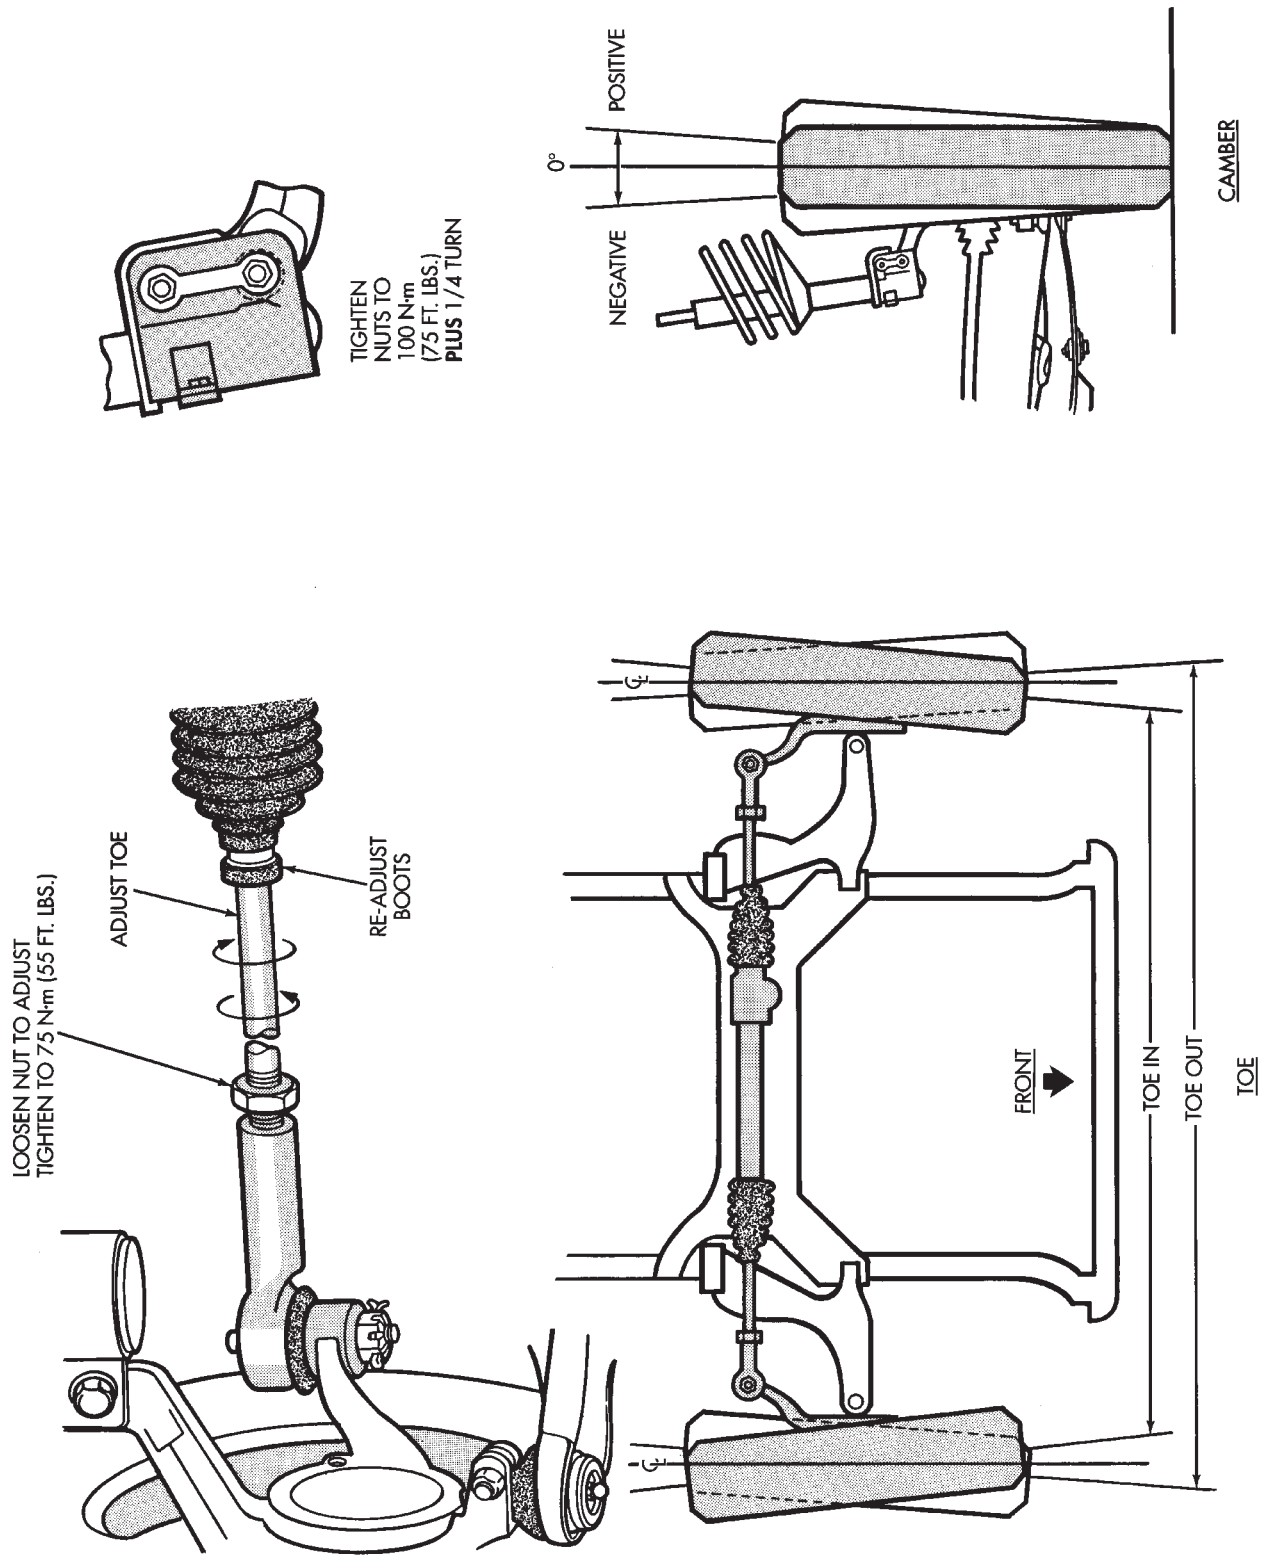

Fig. 1 Alignment Camber/Toe
(1) Prepare vehicle as described in Pre-Alignment.
(2) Loosen cam and through bolts on each side (See Fig. 1).
(3) Rotate cam bolt to move top of wheel in or out to specified camber.
(4) While holding cam bolt with wrench to keep it from rotating. Tighten cam bolt nuts to 100 N•m (75 ft. lbs.) torque **plus** 1/4 turn beyond specified torque.